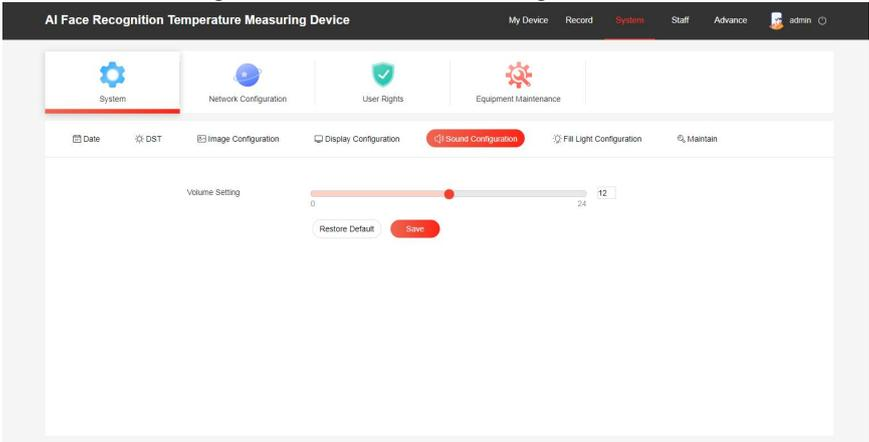

Figure 7-9
Step 1: After logging in to the web page, click "System→System→Sound Configuration" to enter the sound configuration interface, as shown in Figure 7-9 below.